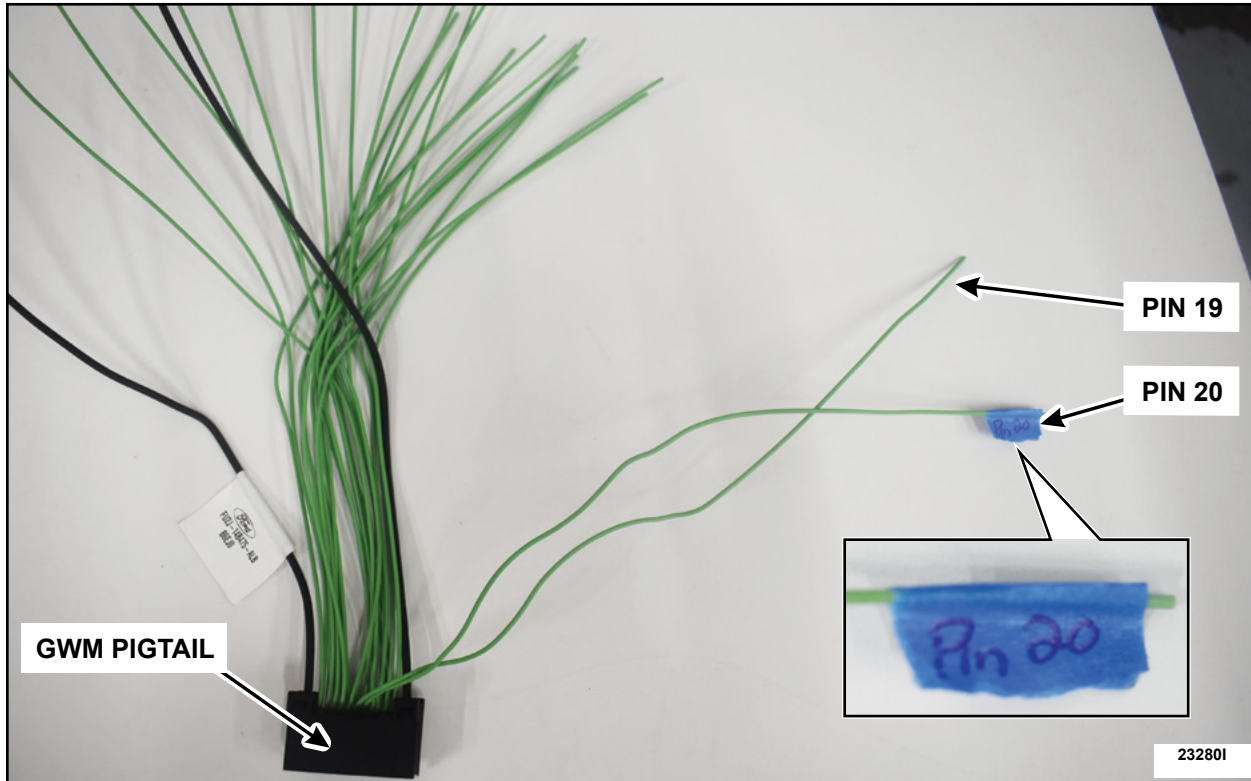

FIGURE 7
20. Identify Pin 19 and 20 on the GWM pigtail. Mark one of the wires using a piece of tape. See Figure 7.